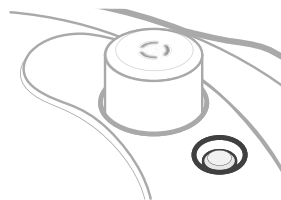

Figure 4.3
10. The float valve will drop to indicate when the pressure has been fully released. [Figure 4.3]